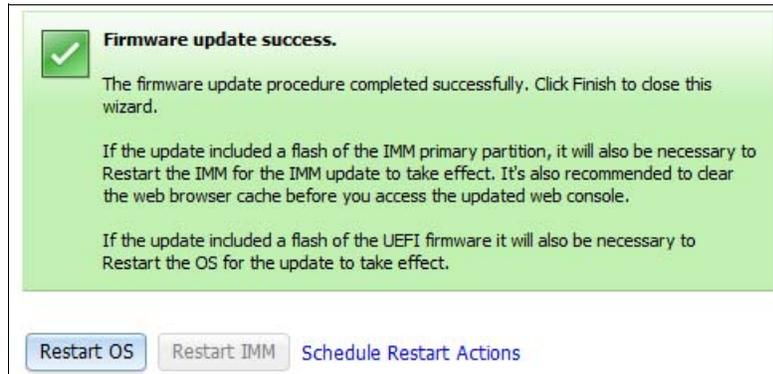

Figure 6-25 “Firmware update success” message
- A progress bar shows firmware update status. When the update is complete, the “Firmware update success” message is displayed, as Figure 6-25 shows.